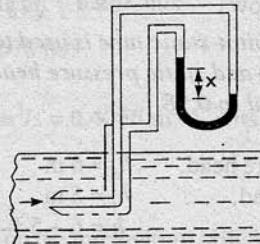

Fig. 6.17
4. Pitot-static tube, which consists of two circular concentric tubes one inside the other with some annular space in between as shown in Fig. 6.17. The outlet of these two tubes are connected to the differential manometer where the difference of pressure head 'h' is measured by knowing the difference of the levels of the manometer liquid say  $x$ . Then  $h = x \left[ \frac{S_g}{S_o} - 1 \right]$ .